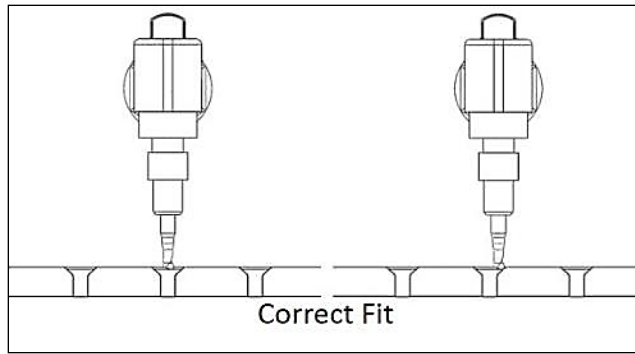

Figure 2. Proper GFR-Bit Fit
- 3.1.2. Ensure the GFR-Bit diameter is a narrower than the fastener head from which filler is being removed. See **Figure 2**.